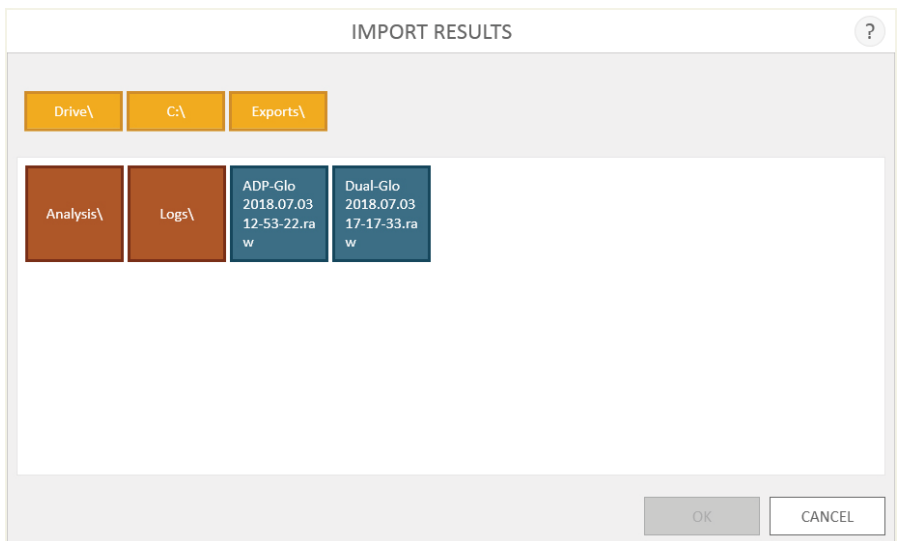

Figure 62. Importing Results, Templates or Analyses. Use the file browser screen to browse to the location of the desired import file.
- Touch the **Import** button near the bottom left side of the screen to open the 'Import Results', Import Templates' or 'Import Analyses' screen, depending on the current list being viewed (Figure 62).